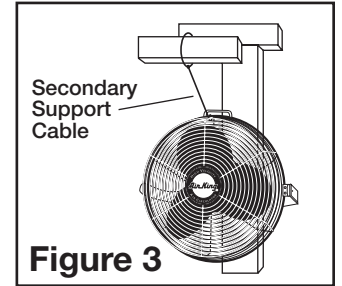

Figure 3
- Wrap the other end of the Cable around a secure building joist, truss, or other support near the Fan (Figure 3). Take up all excess slack in the Cable.